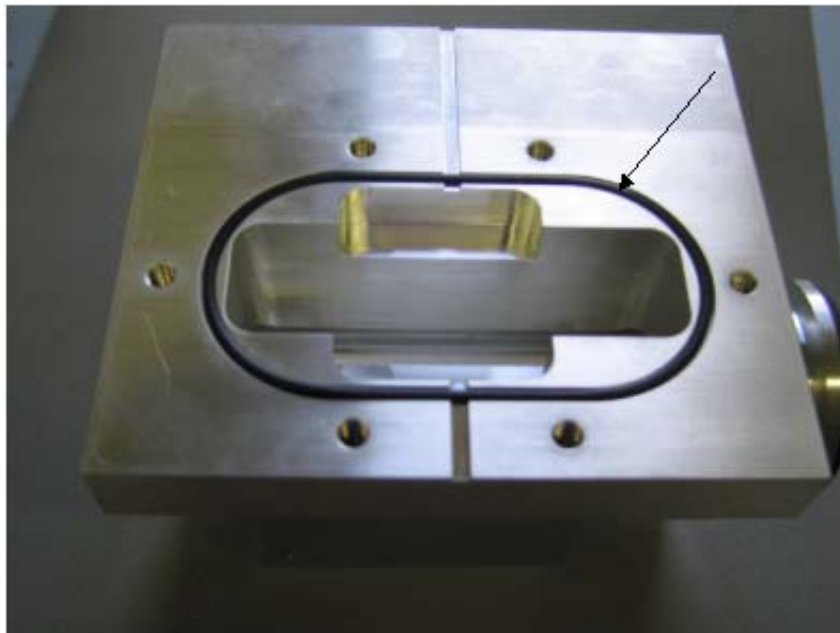

Figure B-64 O-ring
9. Remove the O-ring and discard (Figure B-64).